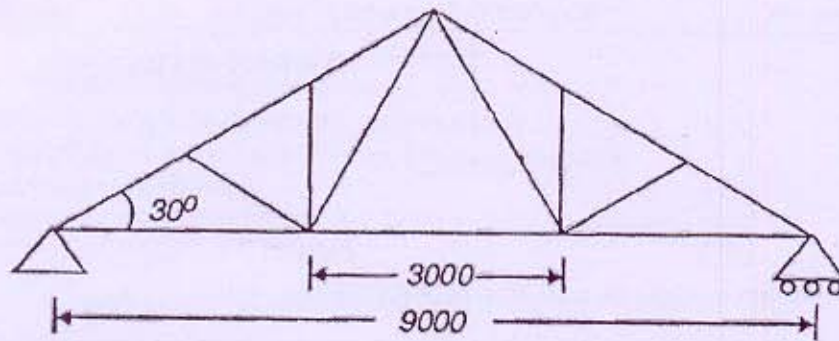

Figure: 1
- Q - 5 (a) Calculate dead load, live load and wind load per panel point for the roof truss shown in **Figure 1** situated in the vicinity of Bombay. [05]